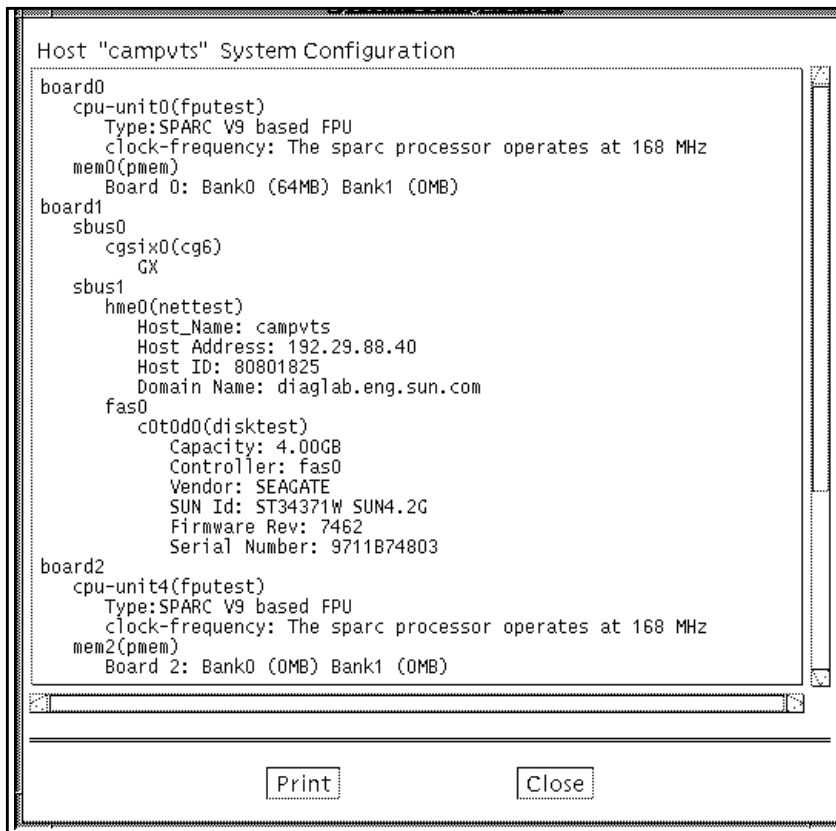

FIGURE 3-16 System Configuration
- **To display a listing of the hardware on the test system and corresponding hardware tests (see FIGURE 3-16) select System configuration.**